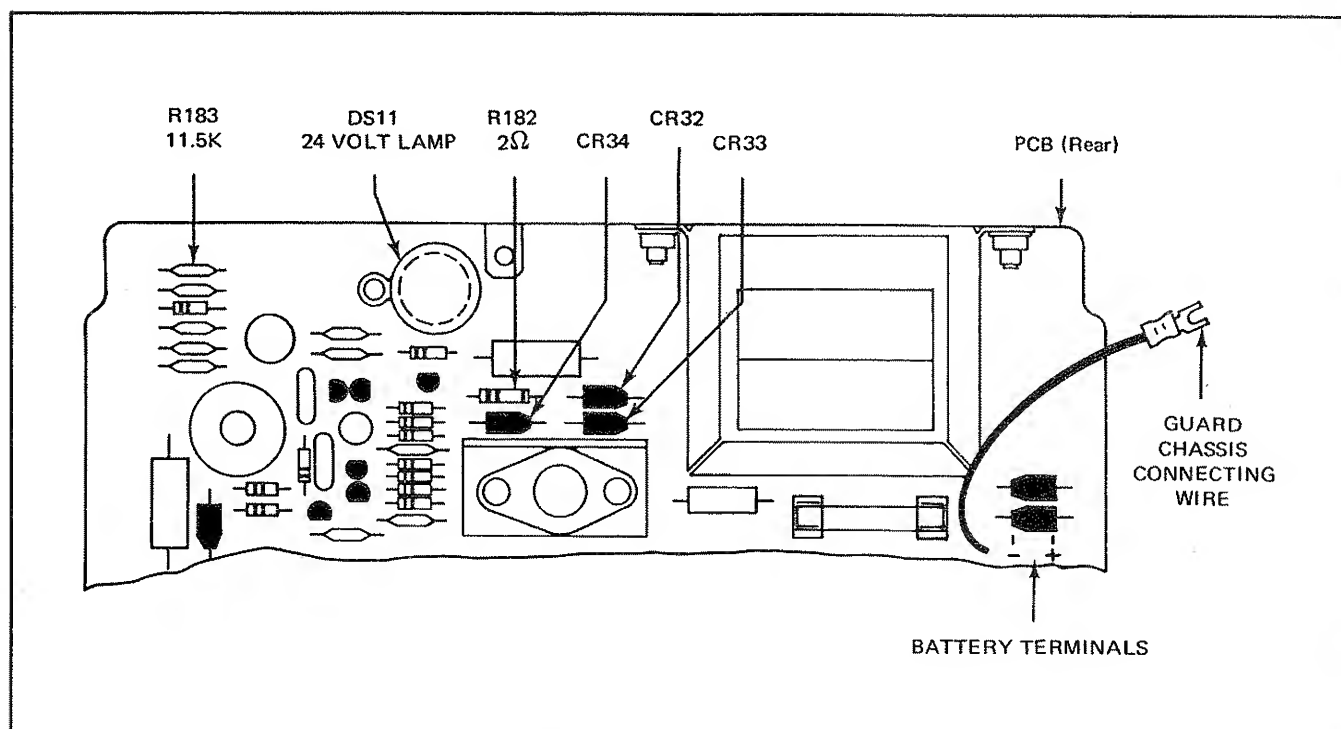

Figure 6-7. COMPONENT LOCATIONS FOR MODEL 8100A BATTERY OPTION INSTALLATION
- c. Install and solder the 2 ohm and 11.5k resistors on the PCB at the locations shown in Figure 6-7.
- d. Install and solder the three diodes on the PCB at the locations shown in Figure 6-7. Be sure that the diodes are oriented according to the anode-cathode markings that are etched on the PCB.
- e. Install and solder the ballast lamp on the PCB at the location shown in Figure 6-7. Three solder connections are required: The anchor lug on the component side of the PCB should be soldered to the side of the lamp base once the lamp is in position, and the two lamp terminals should be soldered from the underneath side of the PCB.
- h. Replace the top guard chassis and connect the battery leads to the battery connector pins at the right-rear of the PCB as shown Figure 6-7.